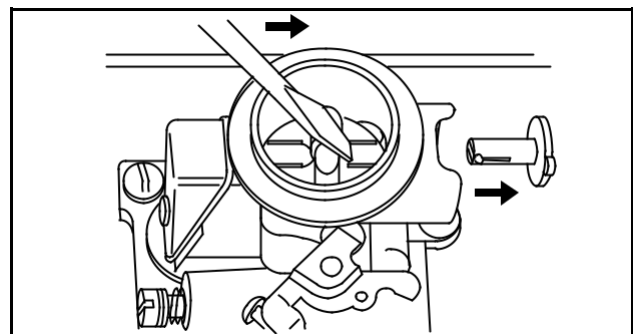

Fig. 29
2. Apply pressure on end of shaft to loosen as shown in Fig. 29.